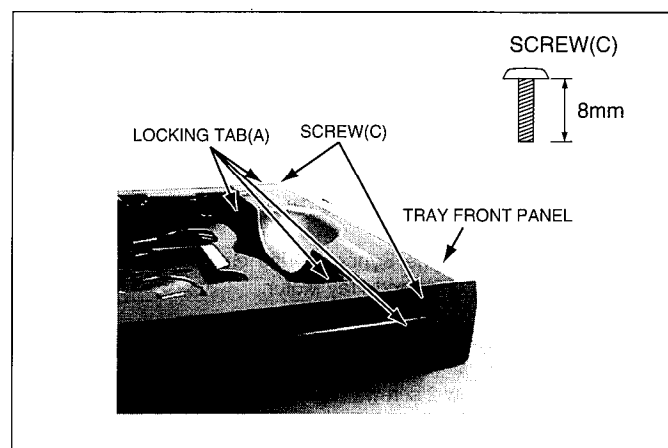

Fig. T-8
- Fig. T-8 Unscrew 2 screws (C) and unlock 4 locking tabs (A), then remove the Tray Front Panel.